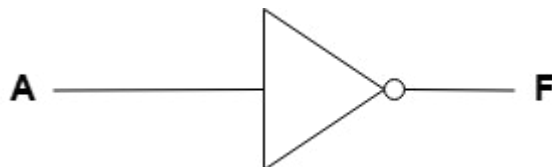

Figure 4.3: NOT Gate
- c. **NOT Gate:** This gate inverts (reverses) the signal input. If the input is 1, the output is 0, and vice versa. It is like saying, “If this is true, then make it false.” NOT is represented by a bar over the variable ( $\bar{}$ ). It can also be represented diagrammatically, as shown in Figure 4.3. So, the inverse of 1 is 0, in Boolean Algebra this is written as the inverse on the variable A is
The NOT gate represented in **Figure 4.3** has one input (A) and one output (F). Below is the truth table for this NOT gate.